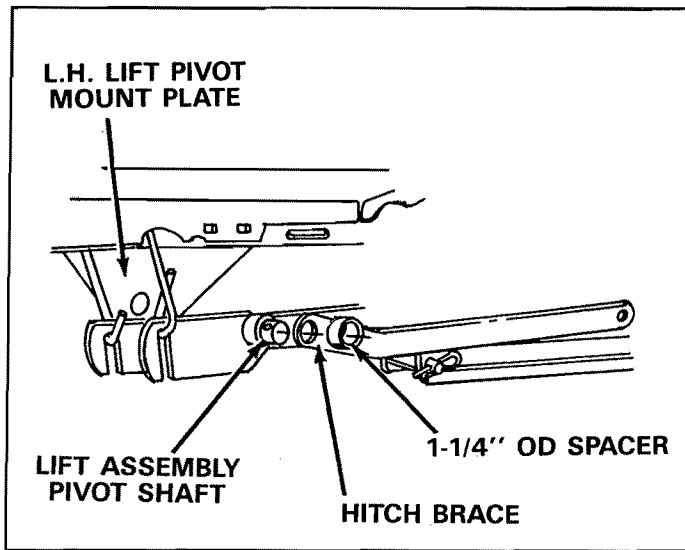
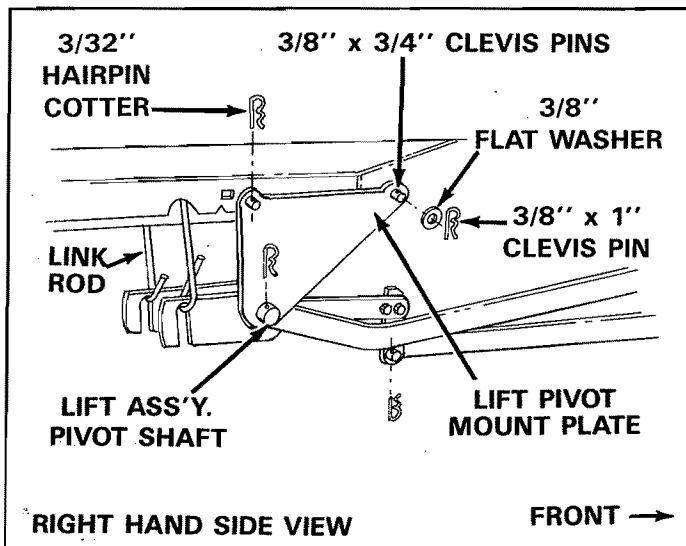

FIGURE 14
FIGURE 15
13. Assemble one hitch brace (end with the large hole), one 1-1/4" OD spacer onto each end of the lift assembly pivot shaft. See figure 14.
14. Insert pivot shaft end (from R.H. side of tractor) into hole in L.H. lift pivot mount plate. See figure 14.
15. Assemble the other lift pivot plate, over right hand end of lift assembly pivot shaft and connect to outside of frame (see figure 15) using one 3/8" x 1" clevis pin from inside through front hole in lift pivot plate. Secure with 3/8" flat washer and 3/32" (small) hairpin cotter. Secure rear of plate with one 3/8" x 3/4" clevis pin and one 3/32" (small) hairpin cotter. Secure ends of pivot shaft to each lift pivot plate with 1/8" (large) hairpin cotter. See figures 14 and 15.